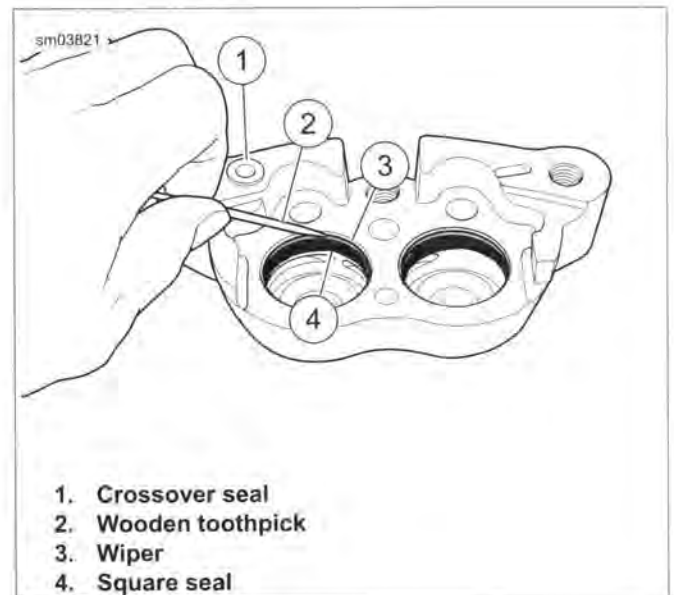

Figure 2-59. Wipers and Seals
6. See Figure 2-59. Remove and discard cross-over seal (1) from inside caliper housing.
7. Using a wooden toothpick (2), remove a wiper (3) and square seal (4) from each caliper bore. Discard all removed parts.